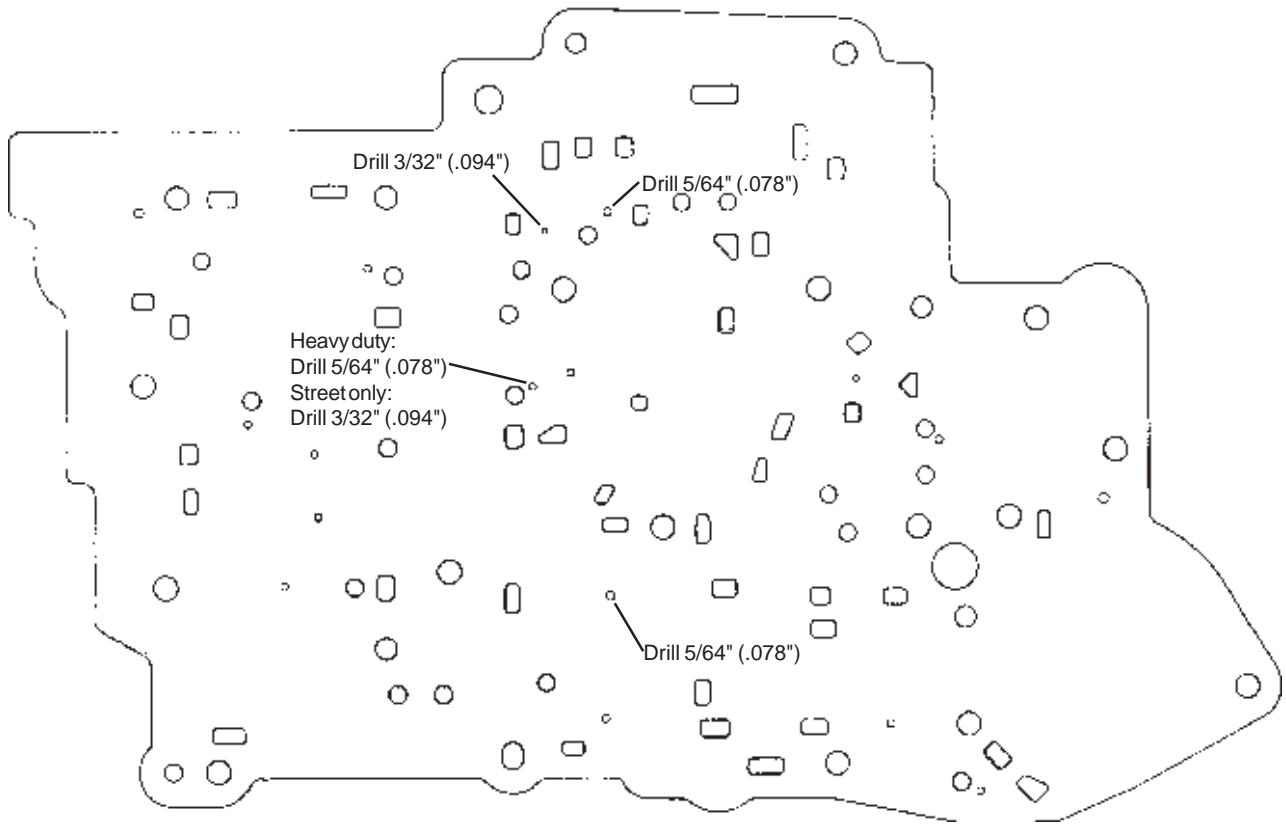

Fig. 5. Drill Separator Plate.
STEP 7. Heavy Duty and Street; Separator Plate. Using the supplied drills, enlarge the holes in your separator plate as indicated (see Fig. 5) for the performance level desired. Pay close attention to the diagram when locating the holes to be enlarged so as not to enlarge the wrong hole. Carefully deburr the holes after drilling.